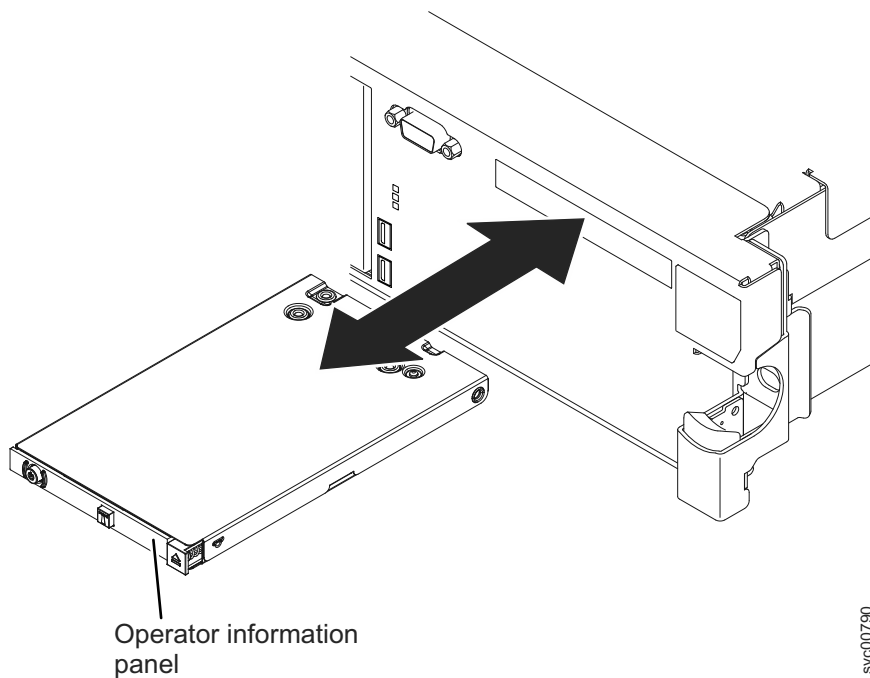

Figure 164. Replacing the 2145-DH8 operator-information panel
2. From the front of the node, slide the operator-information panel into the node until it clicks into place, as shown in Figure 164 on page 196.